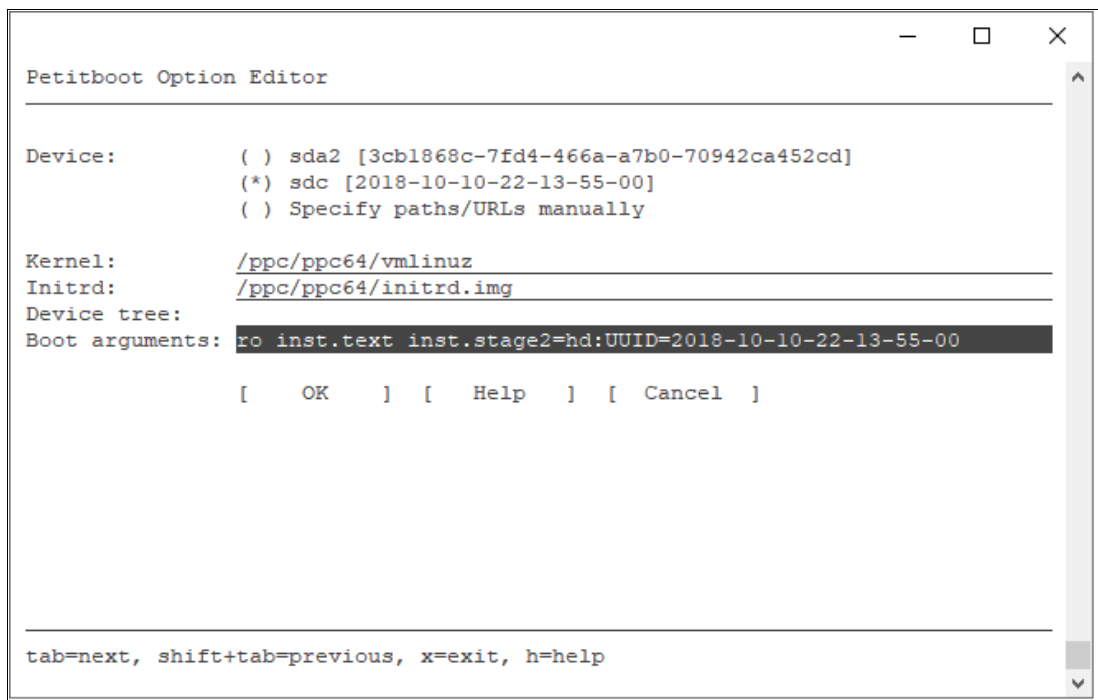

Figure 2-7 Boot arguments in Petitboot
3. Before you boot the installation media, press e for edit when the Install Red Hat line is highlighted. Then, add the boot arguments as shown in Figure 2-7. Replace the UUID with the one from your virtual media device from step 2 on page 43.